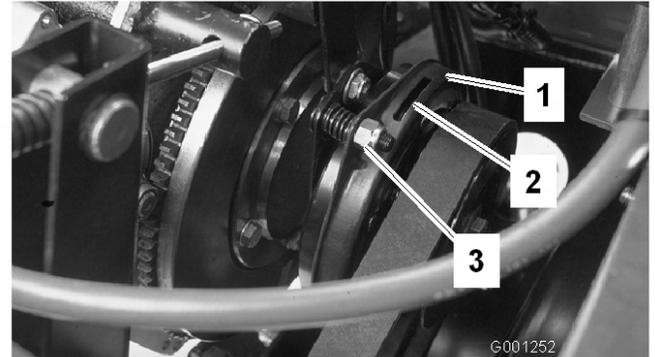

Figure 66
- Adjust the air gap so that a 0.015 inch feeler gauge slides in between the clutch lining and friction plate with light pressure (Figure 66). The gap can be decreased by turning the adjusting nut clockwise (Figure 66). The maximum service gap is 0.030 inch. Adjust all three air gaps.